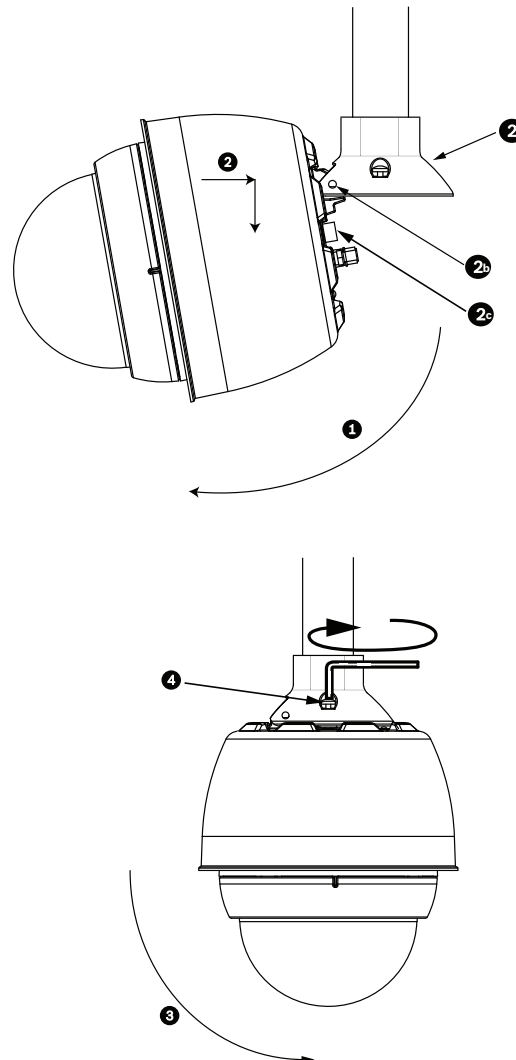

Figure 3.13 Pendant to Roof / Pipe Mount Attachment
- Tighten the three (3) 10-mm (3/8-inch) stainless steel hex bolts on the bracket to lock the Parapet Arm in position. See *Figure 3.13, Page 49*, for an illustration.